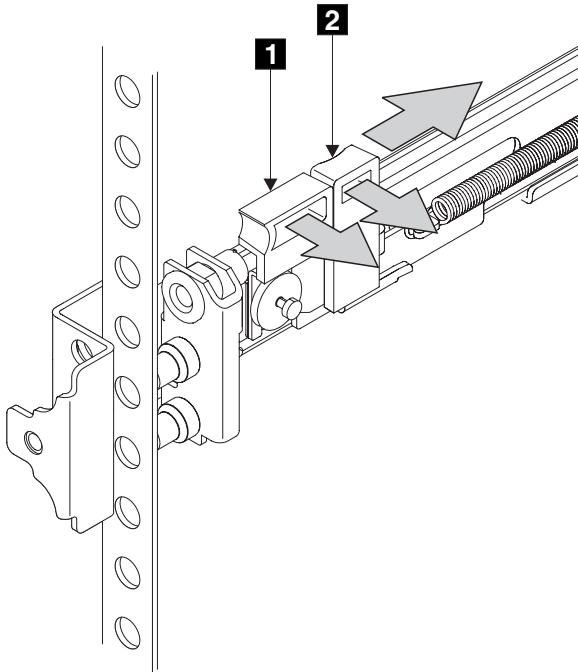

Figure 46. The left support rail for the SAN Volume Controller
2. Put your left index finger onto the back edge of the latch lever **2** and your left thumb on the front edge of the latch lock **1**, as shown in Figure 46 on page 66.